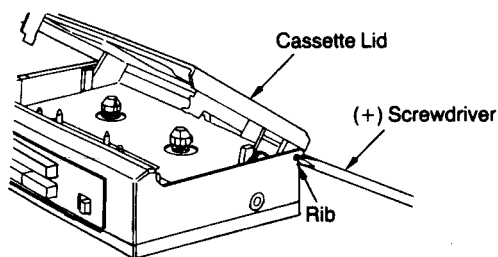

Fig. 1
2. Remove the cassette lid by pressing its rib with the tip of a (+) screwdriver. (Fig.1)